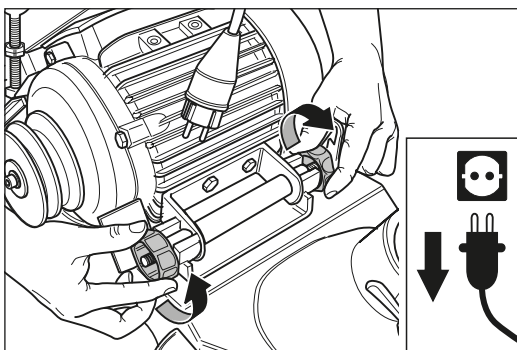

Fig. 87 Loosen the two motor nuts.
- 4 Loosen the two motor nuts at the motor bearing bracket (fig. 87).